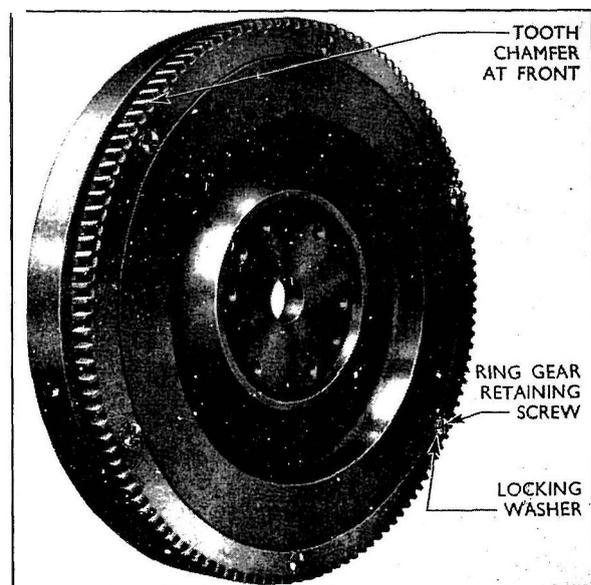

Fig. 20
34. To remove the flywheel ring gear, remove the six countersunk screws securing the gear to the flywheel, and tap the gear off its register (see Fig. 20).
12. Fit the flywheel ring gear to the flywheel with the chamfered edge of the teeth facing towards the front of the flywheel (see Fig. 20).